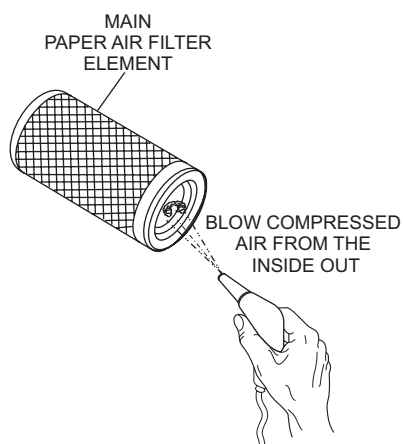

Figure 39. Cleaning Paper Air Filter Element
- To clean the main element (paper air filter) as referenced in Figure 39, tap the filter element several times on a hard surface to remove dirt, or blow compressed air, not to exceed 30 psi (207 kPa, 2.1 kgf/cm²), through the filter element from the inside out.